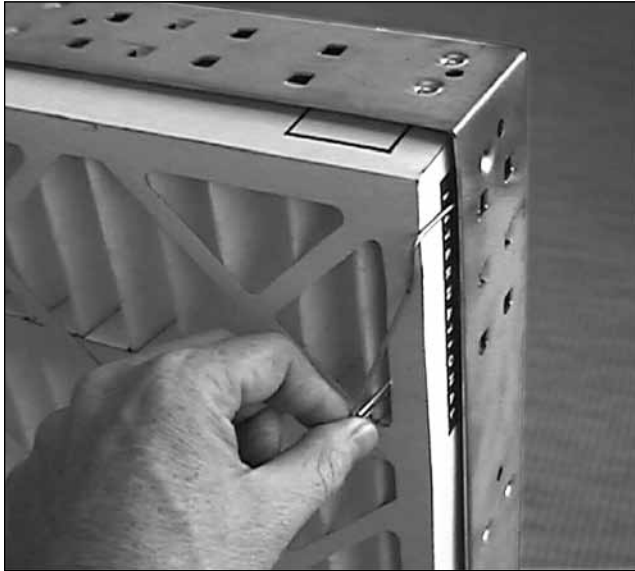

Figure 41 – Place the end of the latch over the filter frame, securing the filter to the frame.
5. After the filter has been placed into the frame, grasp the loose end of the latch and place it over the filter frame, so that the latch secures the filter into the frame (see Figure 41).